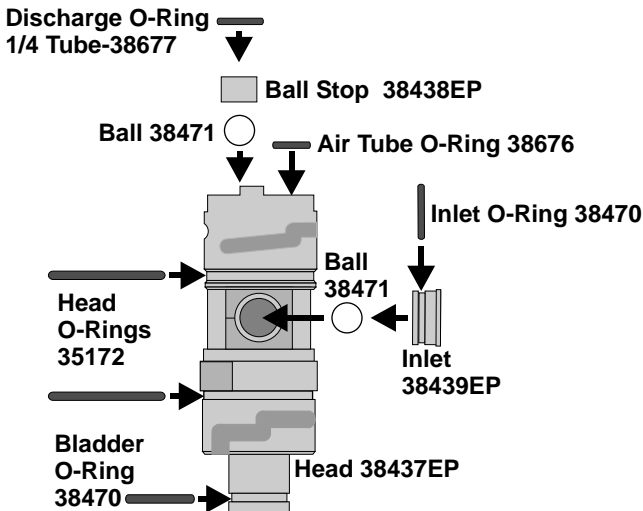

Figure 3
Use Figure 2, (Page 3) to identify main pump components and Figure 3, (below) to identify O-ring locations. Detailed exploded view drawing of the upper end of the pump are shown on pages 7 and 8.
1. See Figure 3 (below) to identify locations where O-rings are to be installed and install all O-rings.
Use Figure 2, (Page 3) to identify main pump components and Figure 3, (Page 4) to identify O-ring locations.